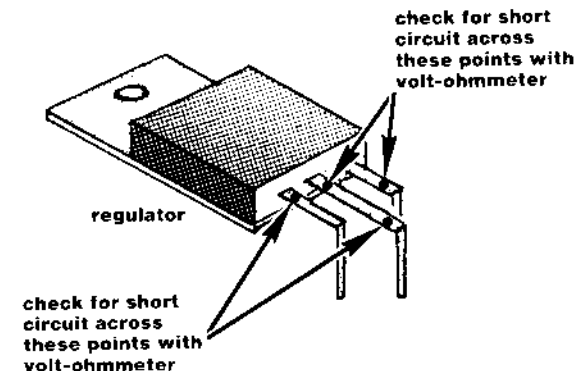

Figure 10.
6. Before proceeding, check your work so far by testing the board for any shorts between supply lines and ground. Referring to figure 10, use a Voltmeter to test for a shorted condition at the test points indicated on the regulator.